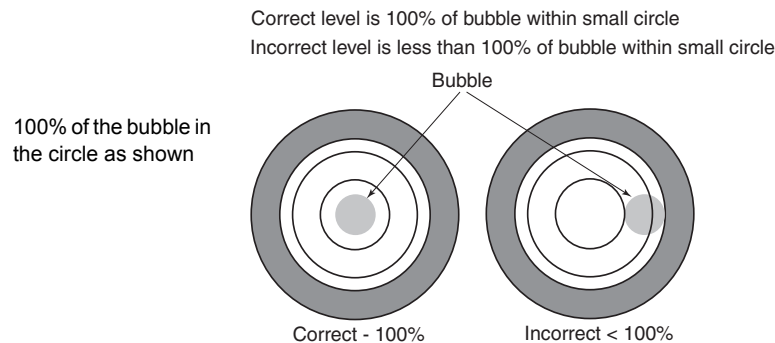
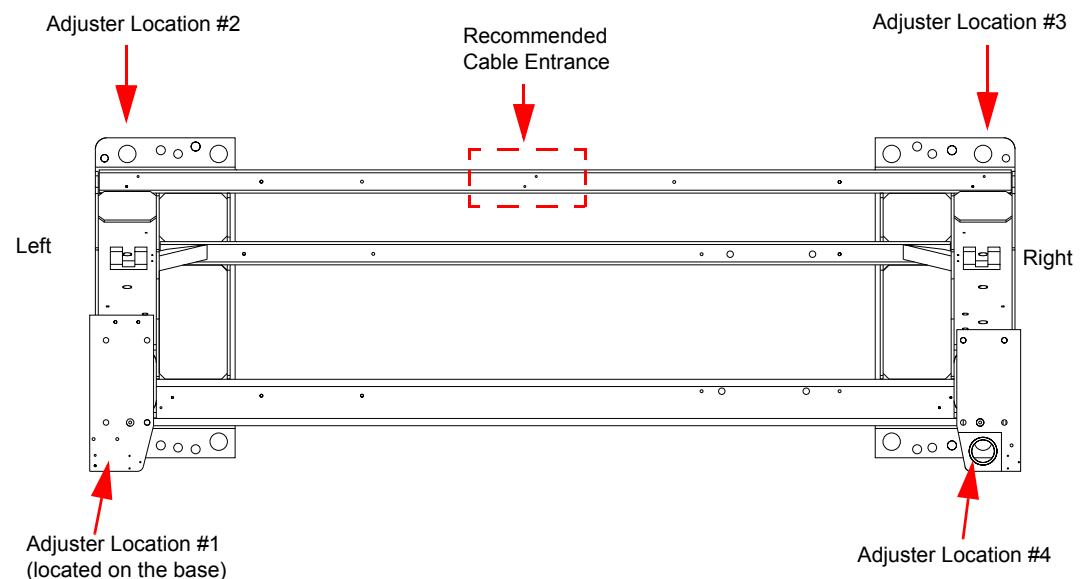

Figure 1-10 Bubble Level Centering
Figure 1-11 Gantry Base Adjuster Locations — Top View
- 2.) Systematically turn each of the gantry's adjusters (locations 1, 2, 3 and 4 in Figure 1-11) until both bubble levels are centered left-to-right and front-to-back (see Figure 1-10).
- 3.) When the bubble levels are centered (Figure 1-10), each of the four (4) leveling pads should be carrying a portion of the gantry weight. Distribution of the gantry weight prevents the base frame from rocking during normal operation.